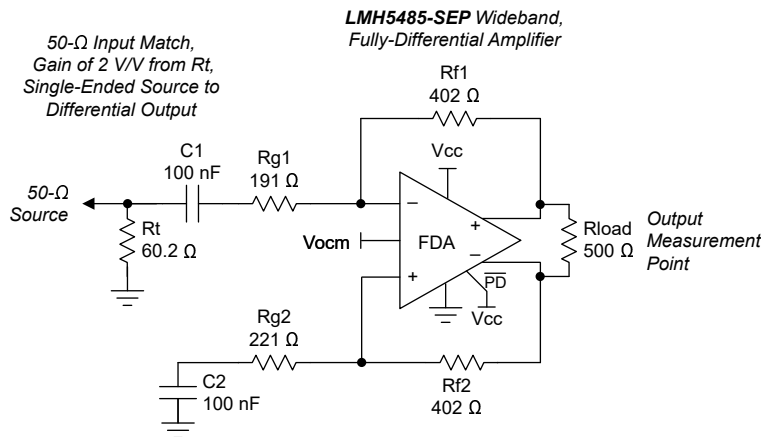
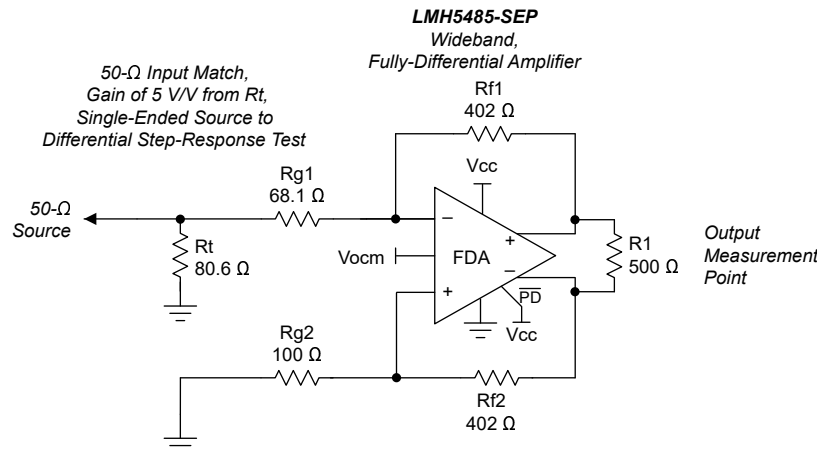
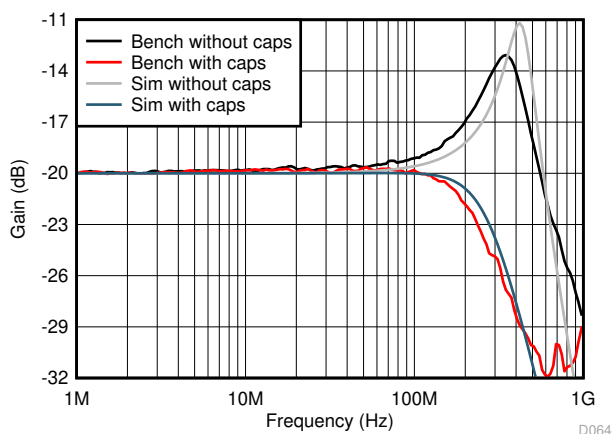

Figure 8-1. AC-Coupled, Single-Ended Source to a Differential Gain of a 2 V/V Test Circuit
Figure 8-2. DC-Coupled, Single-Ended-to-Differential, Basic Test Circuit Set for a Gain of 5 V/V
FIG 10-3. Attenuator Response Shapes with and without External Compensation
50 MHz input, 0.5-ns input edge rate, single-ended input to differential output, split supply, DC coupled, see Figure 8-2
2 V_{pp} output, see Figure 8-1 with $V_{S+} = 3\text{ V}$, $V_{OCM} = 1.5\text{ V}$
Single-ended input to differential output, simulated differential output impedance, see Figure 8-1
Single-ended input to differential output, gain of 2 (see Figure 8-1), simulated with 1% resistor, worst-case mismatch
Single-ended to differential, gain of 2 (see Figure 8-1) PSRR simulated to differential output
The LMH5485-SEP offers the advantages of a fully differential amplifier (FDA) design, with the trimmed input offset voltage of a precision op amp. The FDA is an extremely flexible device that provides a purely differential output signal centered on a settable output common-mode level. The primary options revolve around the choices of single-ended or differential inputs, AC-coupled or DC-coupled signal paths, gain targets, and resistor Value selections. Differential sources can certainly be supported and are often simpler to both implement and analyze. Examples of both AC and DC coupled single-ended to differential circuits is shown in Figure 8-1 and Figure 8-2.
Figure 8-1 shows how most characterization plots fix the R_f value at 402 Ω . This value is completely flexible in application, but the 402 Ω provides a good compromise for the issues linked to this value, specifically:
- Added output loading. The FDA appears like an inverting op amp design with both feedback resistors as an added load across the outputs (approximate total differential load in Figure 8-1 is 500 Ω || 804 Ω = 308 Ω).
The outputs offer near rail-to-rail output swing (0.2 V headroom to either supply), while the device inputs are negative rail inputs with approximately 1.2 V of headroom required to the positive supply. Figure 8-2 shows how this negative rail input directly supports a bipolar input around ground in a DC-coupled, single-supply design. Similar to all FDA devices, the output average voltage (common-mode) is controlled by a separate common-mode loop. The target for this output average is set by the V_{OCM} input pin that can be either floated to default near mid-supply or driven to a desired output common-mode voltage. The V_{OCM} range extends from a very low 0.91 V above the negative supply to 1.1 V below the positive supply, supporting a wide range of modern analog-to-digital converter (ADC) input common-mode requirements using a single 2.7 V to 5.4 V supply range for the LMH5485-SEP.
Going to the device input pins side, because both the source and balancing resistor on the nonsignal input side are DC blocked (see Figure 8-1), no common-mode current flows from the output common-mode voltage, thus setting the input common-mode equal to the output common-mode voltage.
The output considerations remain the same as for the AC-coupled design. Again, the input can be DC-coupled while the output is AC-coupled. A DC-coupled input with an AC-coupled output might have some advantages to move the input V_{cm} down if the source is ground referenced. Figure 8-2 shows how when the source is DC-coupled into the LMH5485-SEP, both sides of the input circuit must be DC coupled to retain differential balance. Normally, the nonsignal input side has an R_g element biased to whatever the source midrange is expected to be. Providing this midscale reference gives a balanced differential swing around V_{OCM} at the outputs.
Operating the LMH5485-SEP at a low DC noise gain, or with higher feedback resistors, can cause a lower phase margin to exist, giving the response peaking shown in Figure 10-3 for the gain of 0.1 (a 1/10 attenuator) condition. Although it is often useful operating the LMH5485-SEP as an attenuator (taking a large input range to a purely differential signal around a controlled-output, common-mode voltage), the response peaking illustrated in Figure 10-3 is usually undesirable. Several methods can be used to reduce or eliminate this peaking; usually, at the cost of higher output noise. Using DC techniques always increases the output noise broadband, while using an ac noise-gain-shaping technique peaks the noise, but only at higher frequencies that can then be filtered off with the typical passive filters often used after this stage. Figure 10-1 shows a simplified schematic for the gain of 0.1 V/V test from Figure 8-1.
This configuration simulates to a nominal 18° phase margin; therefore, a very highly-peaked response is shown in Figure 10-3. This peaking can be eliminated by placing two feedback capacitors across the Rf elements and a differential input capacitor. Adding these capacitors provides a transition from a resistively set noise gain to a capacitive divider at high-frequency flattening out to a higher noise gain (NG2 here). The key for this approach is to target a Zo, where the noise gain begins to peak up. Using only the following terms, and targeting a closed-loop flat (Butterworth) response, gives this solution sequence for Zo and then the capacitor values.
The 1 pF across the inputs is really a total 1.9 pF, including the internal differential capacitance. These two designs (with and without the capacitors) were both bench tested and simulated using the LMH5485-SEP TINA model giving the results of FIG 10-3.